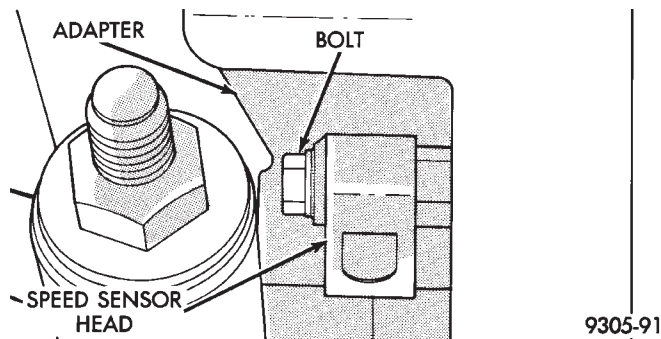

Fig. 12 Speed Sensor Head Attachment To Adapter
(5) Remove speed sensor head, attaching bolt from rear adapter (Fig. 12). Then remove rear speed sensor head from adapter. If the sensor has seized, due to corrosion, **DO NOT USE PLIERS ON SENSOR**